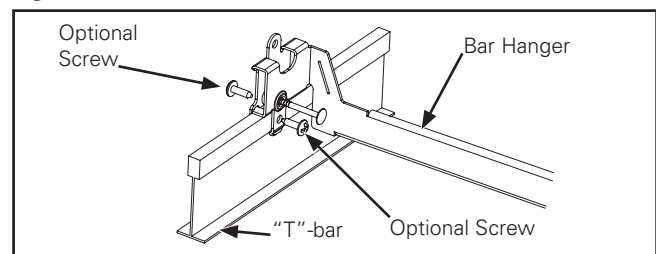

Figure 7.
1. Extend bar hangers and slide the slots in the mounting tabs over the T-bars. Optional fasteners can be used for attaching the bar hangers to the T-bar (Figure 7).